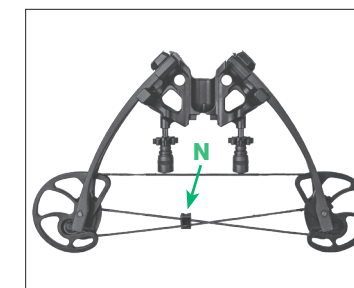

FIGURE 3
**1a** Attach the cable slide (Part N) to the cables by clipping the two cables into the two grooves in the cable slide (Fig. 3). The wider end of the cable slide should face towards the back of the crossbow, the cables should cross on the right side of the riser as shown in Figure 4.
**1b** Slide the cable slide into the opening at the end of the rail while sliding the string down the top of the rail (Fig. 3).